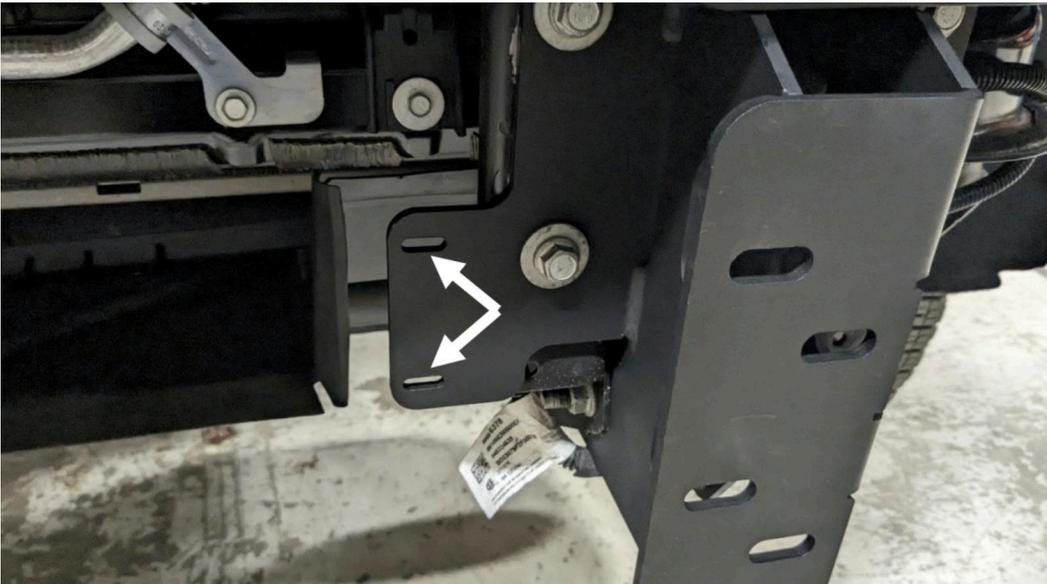

Figure 33
**\*\*Note:** The four (4) inner slots on the mounting brackets and the provided 1/4" hardware is not used for this installation. (Figure 33)